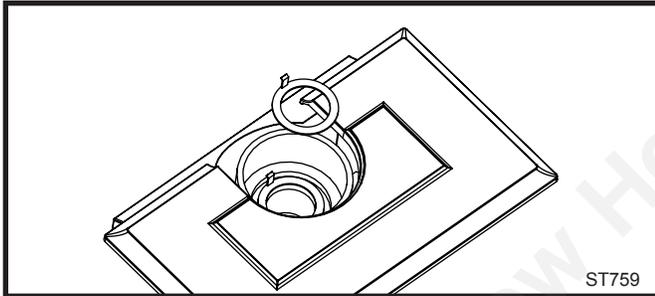

Fig. 16 Install the restrictor plate only if required for the venting configuration. Refer to Page 9.
1. Install the Restrictor Plate. Consult the 'Vent Run Specifications' on Page 8 to determine whether the restrictor plate is needed. If so, put the restrictor plate in place within the inner flue collar as shown in Figure 16.
- 1. Install the Restrictor Plate.** Consult Page 9 to determine whether the restrictor plate is needed. If so, place the restrictor plate into the inner flue collar. (Fig. 16)